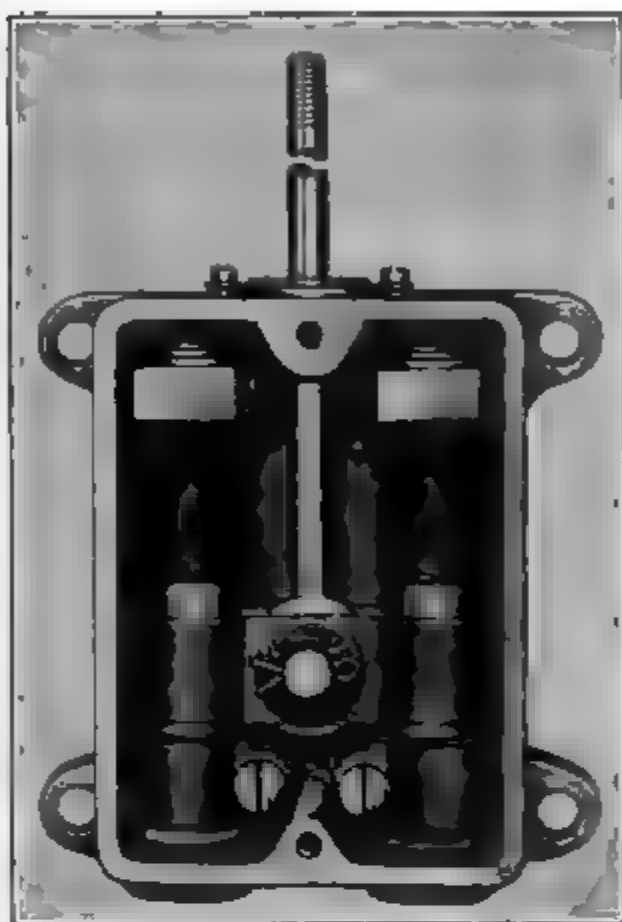
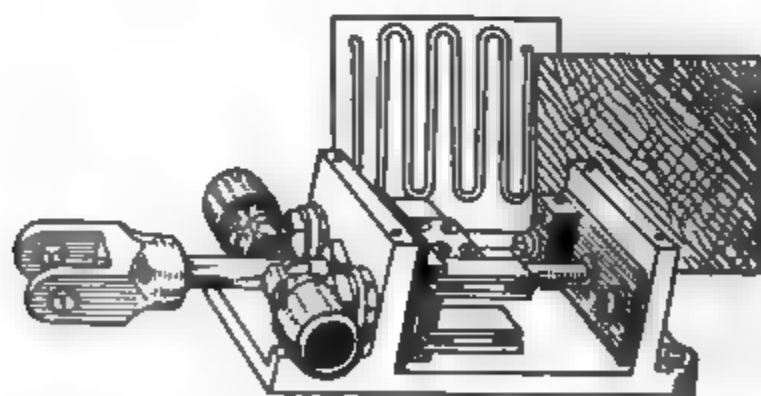
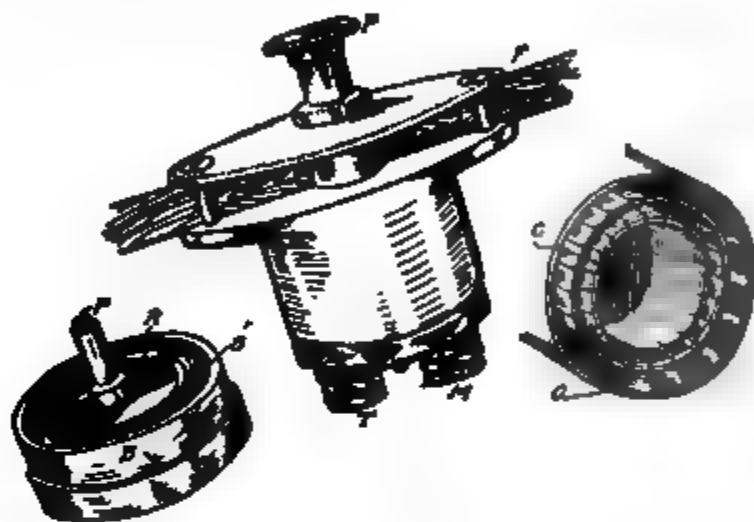

Fig. 172. Remy Starting Switch
Fig. 173 Dean Knife Starting Switch
Fig. 174. Gray and Davis Button Starting Switch
*Miscellaneous Starting Switches.* The type of switch used in connection with the Remy system is shown in Fig. 172. Both this and the Westinghouse switch described are known as butt-contact switches. The knife type of switch is also employed in several systems, Fig. 173 showing the Dean switch of this class. A somewhat unique form of contact is shown in the Gray and Davis switch, Fig. 174. There being no starting gears to mesh, it is only necessary to turn the current